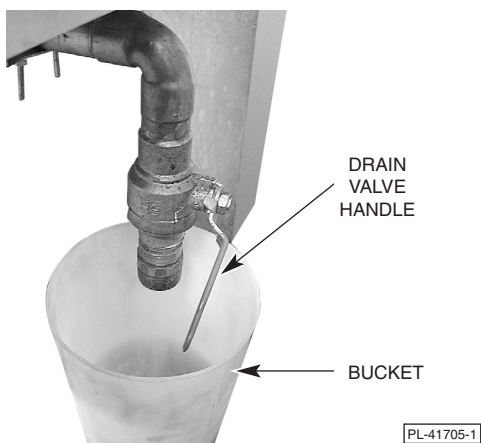

Fig. 34
- Place a bucket under drain connection (Fig. 34) unless connected to a drain and grease trap.